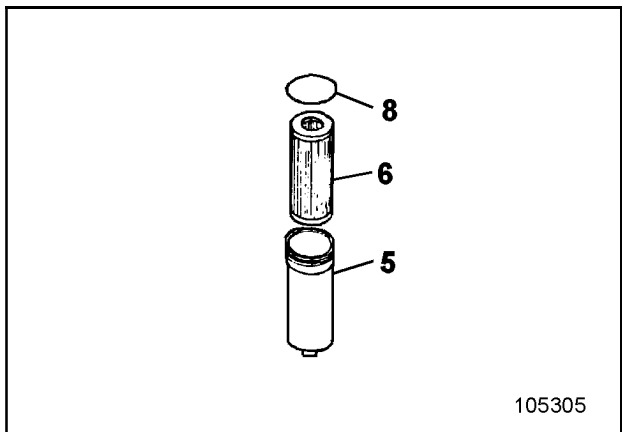

Fig. 3-54:
- Unscrew filter housing (5, Fig. 3-54:) by counterclockwise rotation. Pour out the oil.
- Withdraw filter element (6) from filter housing (5).
- Check filter housing (5) as well as used filter surface for debris.
- Clean filter housing (5) and the sealing face at the filter head with white spirit or paraffin oil.
- Check seals (8) and replace, if required.
- Screw in the filter housing (5) to stop. Then turn out the filter housing by an 1/8 turn so that the filter housing is not stuck due to pressure pulsation and can be easily loosened in case of maintenance works.